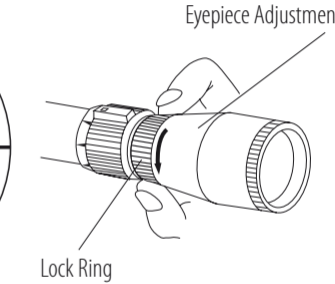

Fig. 3-2
- 3 Finally, without moving the eyepiece adjustment, turn the eyepiece lock ring as in Fig. 3-2 to the end so that the eyepiece adjustment will be firmly locked.